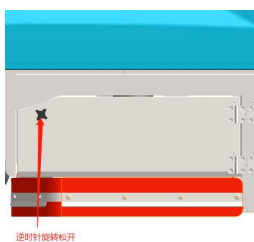

图 1
2. As shown in Figure 1, loosen the plastic handle nut and open the side door; As shown in Figure 2, loosen the plastic handle nut and open the side shield;